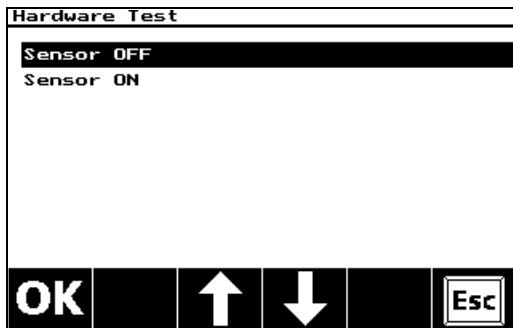

Figure 4
- Now press the Sensor Test  softkey. You should now get the screen in Figure 4.